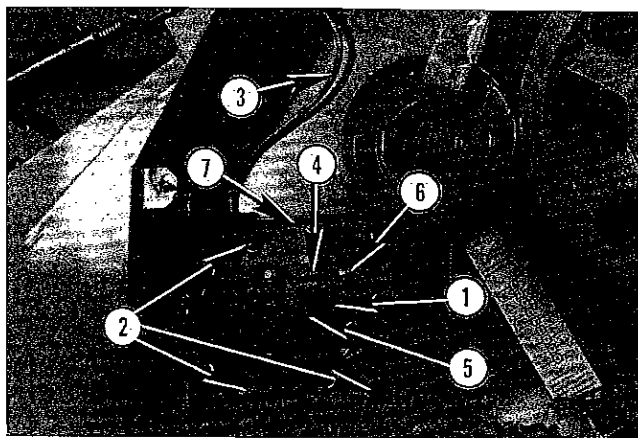

FIGURE 70
7. Attach sling (1) hooks through 2 outside "D" rings (2) on 1 knife row. Snug up hoist, but do not overly tighten it.
8. Loosen outer bearing from its mounting as shown in Figure 70, page 35. Unless this bearing is also being serviced, it is not necessary to remove it from the rotor at this time.
9. Remove 4 3/8" bolts (3) and center anti-wrap shields (4). This allows access, through the rotor's inner end notches to bearing's inner race Allen set screws. Detach shield (5) and lube tube (6) from bearing.
14. If washers are not as stated above, it will be necessary to remove outer bearing. See Figure 70, page 35 and add, or subtract, washers. Two inch nom. I.D. washers are available as part numbers: